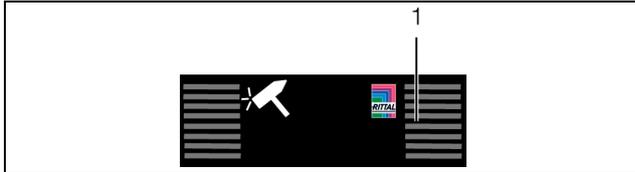
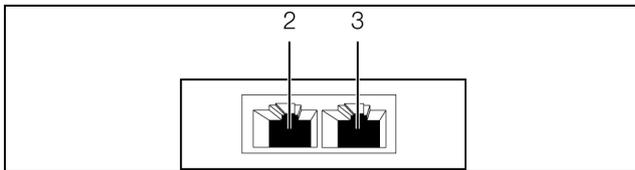

Fig. 11: Front of the vandalism sensor
Fig. 12: Rear of the vandalism sensor
A multi-LED for the status display is integrated into the front of the vandalism sensor (fig. 11, item 1). Further LEDs are located at the rear on the CAN bus connection (fig. 12, item 2 and item 3).